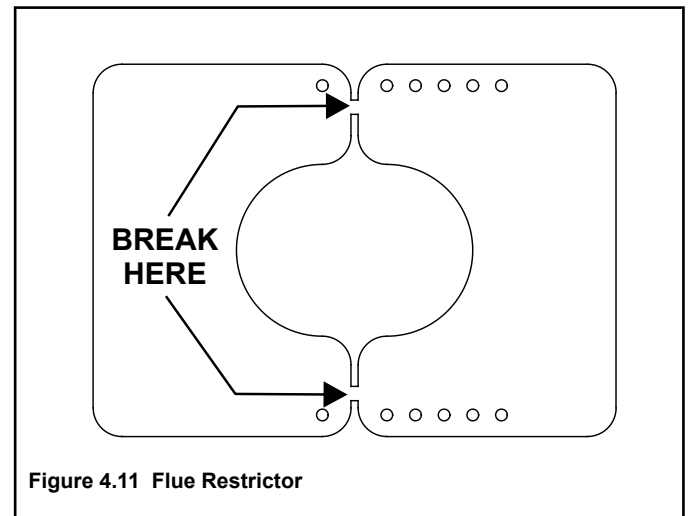

Figure 4.11 Flue Restrictor
2. Break the flue restrictor into two pieces. Do this by bending the part back and forth until it breaks (see Figure 4.11).